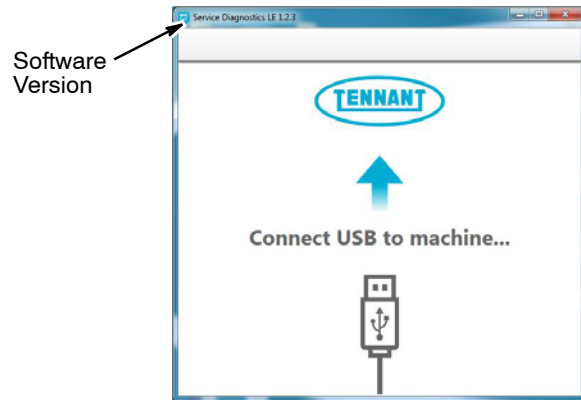

Fig. 22
Tennant Service Application Software is required to update the machine’s firmware version. If the Service Application Software is currently installed on your computer, confirm or re-install the software to ensure latest software version is installed. The software version is listed at top of app window as shown in figure 22. See **TENNANT SERVICE APPLICATION SOFTWARE** to install application or to confirm latest version.
- After start up, the following screen will appear (Figure 22). Confirm if latest version is installed.